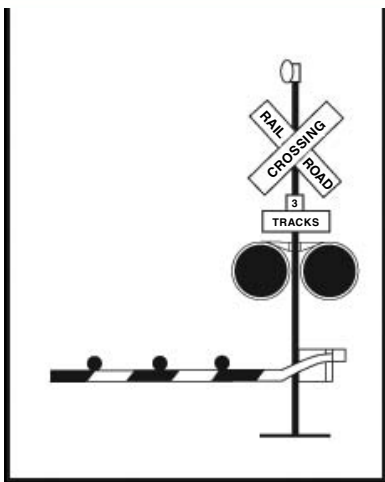

Figure 2.18
**Flashing red light signals.** At many highway-rail grade crossings, the crossbuck sign has flashing red lights and bells. When the lights begin to flash, stop! A train is approaching. You are required to yield the right-of-way to the train. If there is more than one track, make sure all tracks are clear before crossing. See Figure 2.18.
**Gates.** Many railroad-highway crossings have gates with flashing red lights and bells. Stop when the lights begin to flash and before the gate lowers across the road lane. Remain stopped until the gates go up and the lights have stopped flashing. Proceed when it is safe. See Figure 2.18.